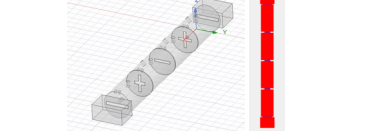
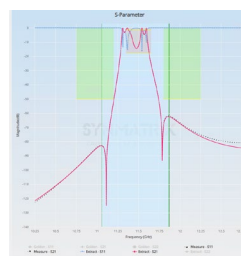

Fig4. Fully parameterized 3D modelling.
Fig5. Initial sim analysis. Dispersive function improves extraction.
Final 3D Modelling (Fig4, Fig5)
- Use SynMatrix's **dispersive effect control** to improve extraction, coupling matrix, and initial simulation (Fig5)